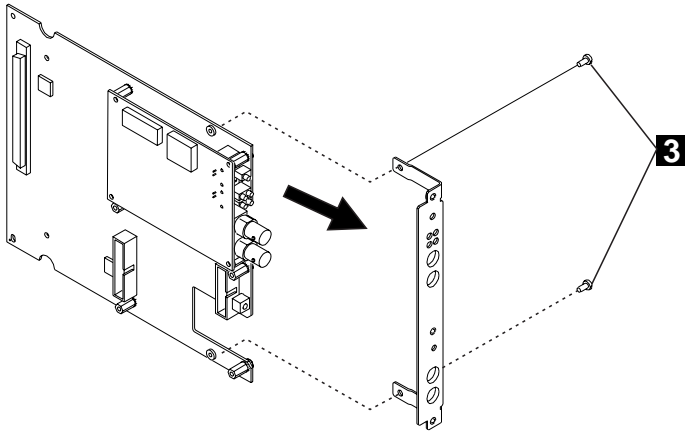

Figure 4-11. Removing the Faceplate Bracket
- c** Remove the faceplate bracket from the motherboard (**3** in Figure 4-11 on page 4-19), retaining the screws and the bracket.